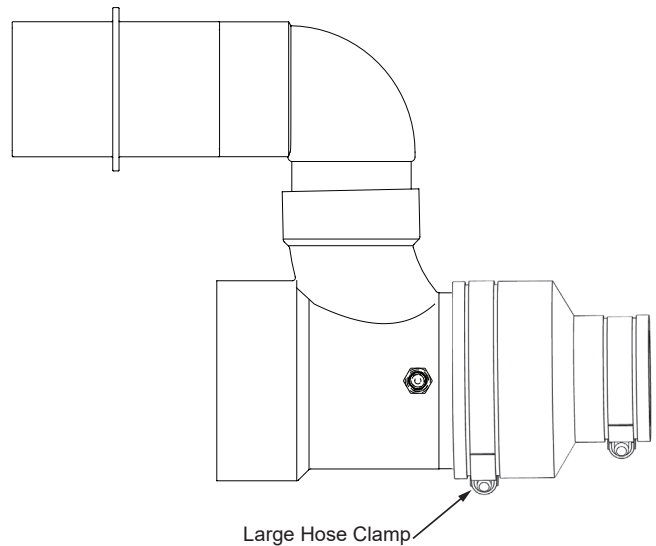

Figure 29. Intake Air Tee Fitting - Side View
3. Loosen the large hose clamp on the Fernco coupling that connects the intake-air connection pipe to the combustion blower. See **Figure 29**.